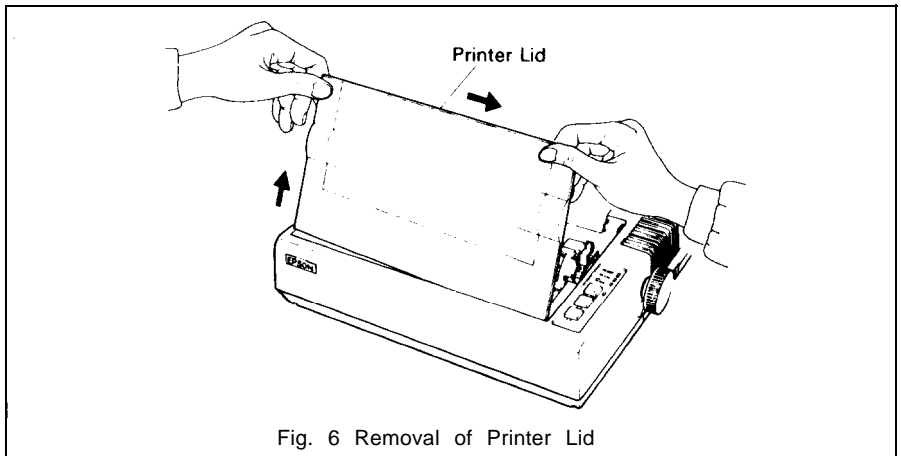

Fig. 6 Removal of Printer Lid
STEP 2. Push the printer lid toward the right and pull up its left side. (See Fig. 6.)